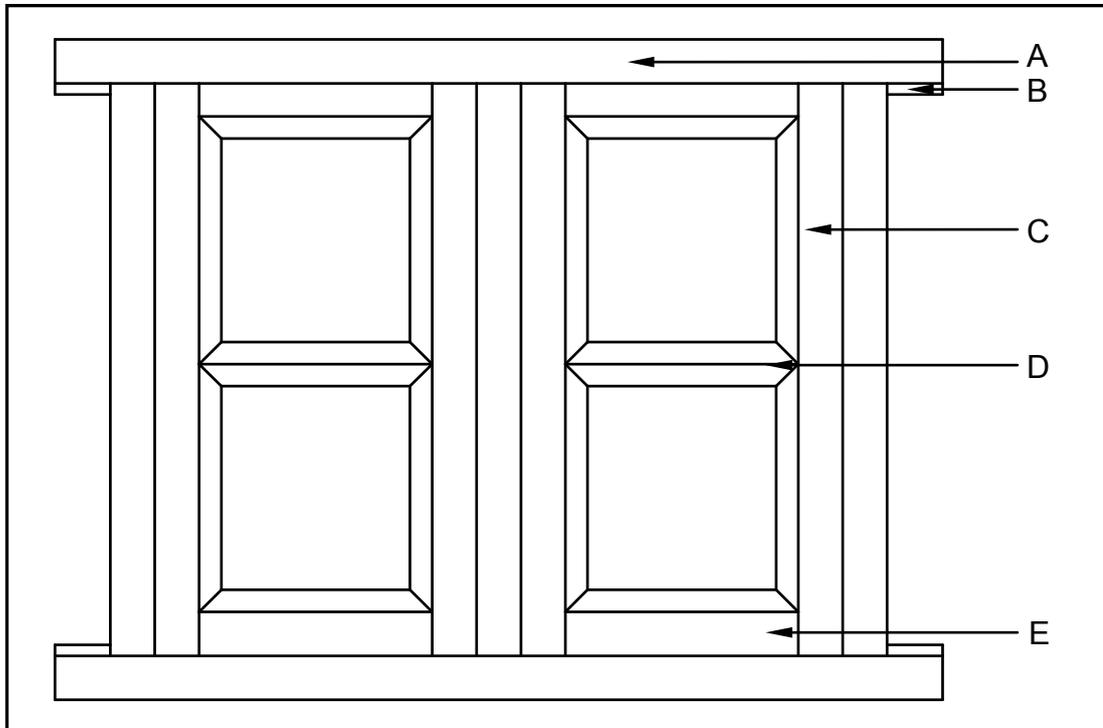

FIGURE 1.9
- 1.9 An elevation of a double casement window within a frame is shown in FIGURE 1.9. Write down the letters **A** to **E** in your ANSWER BOOK and the correct names of the components next to the corresponding letter.